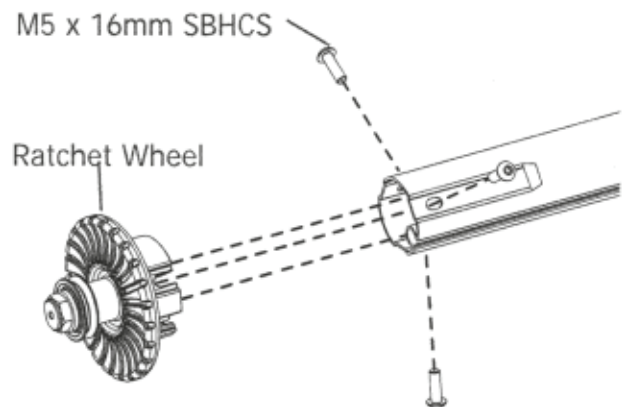

Fig. 4-2
4-3: Attach and fasten a ratchet wheel assembly to the ends of the take up rail with (3) M5 x 16mm SBHCS with a 3mm Allen wrench (Fig. 4-2).